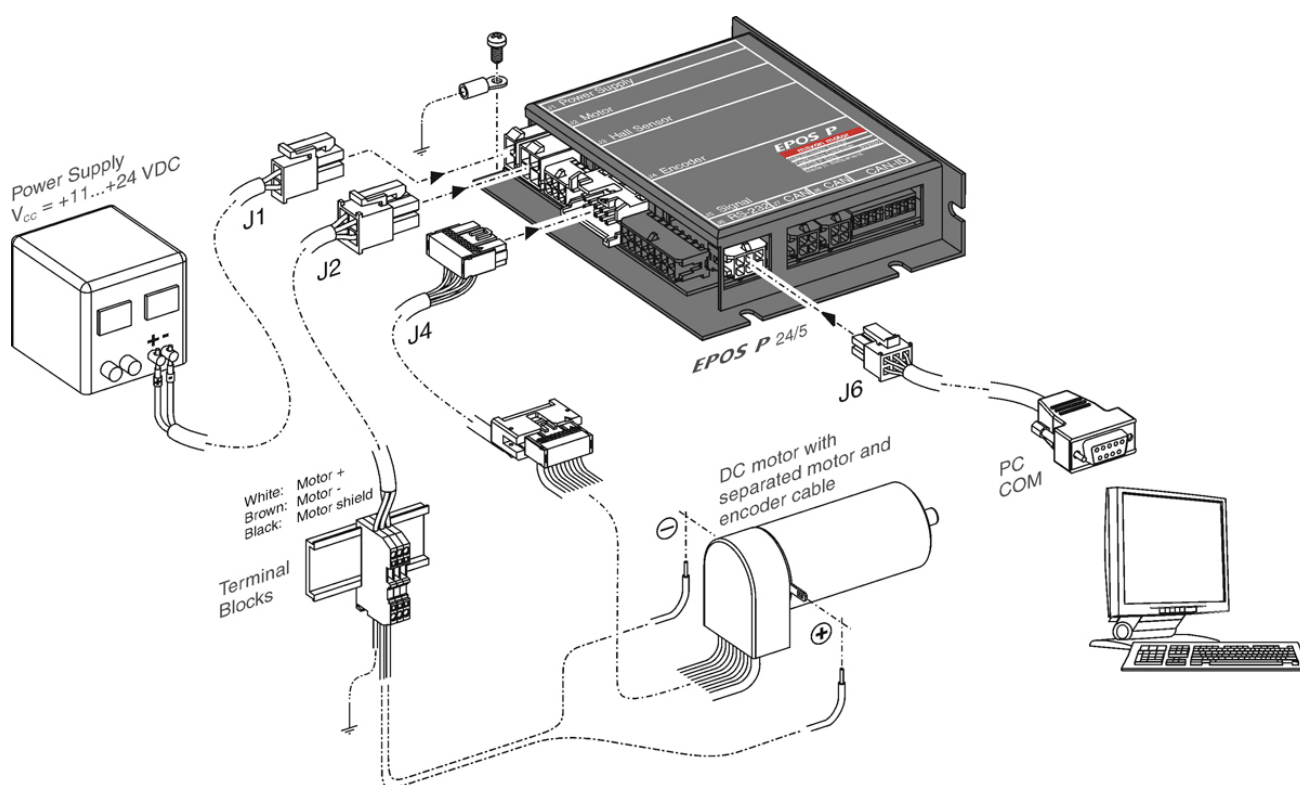

Figure 3-5 Minimum Wiring: maxon DC motor with separated motor/encoder cable
- 2) Connect maxon cable assemblies (→ Table 3-5 and Figure 3-5).